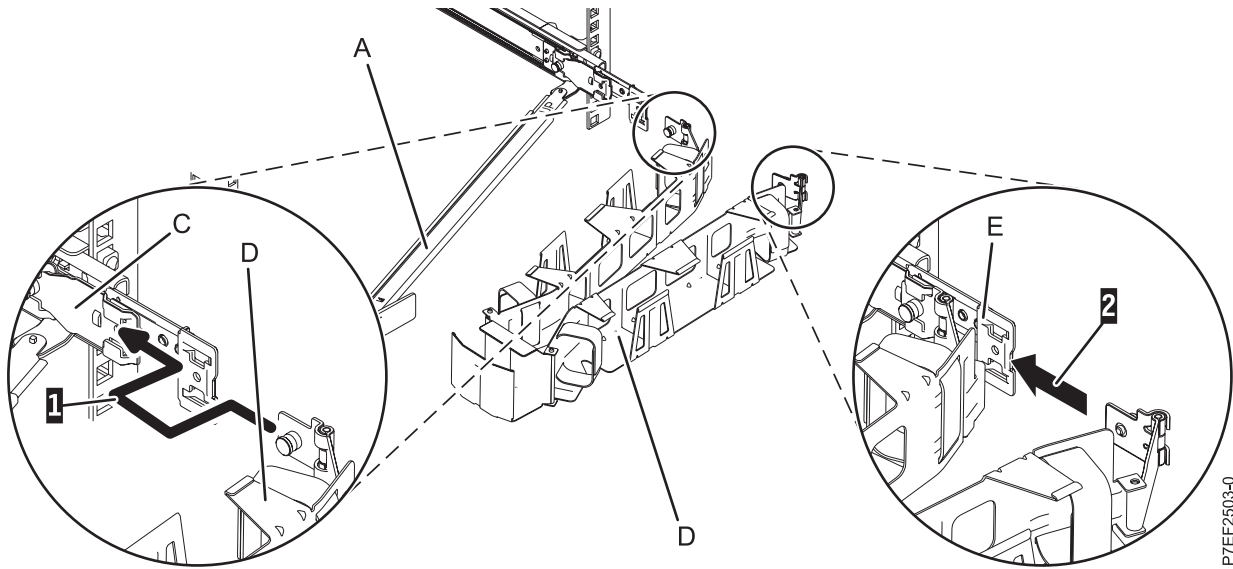

Figure 17. Connecting the cable-management arm
6. Place the cable-management arm (D) on the support arm (A). Slide the first cable-management arm tab (1) into the slot on the mounting bracket (C). Push the tab until the spring-loaded latch snaps into place. Slide the other cable-management arm tab into the extension bracket (E) on the outside of the right slide rail (2). Push the tab until the spring-loaded latch snaps into place, as shown in Figure 17 on page 13.